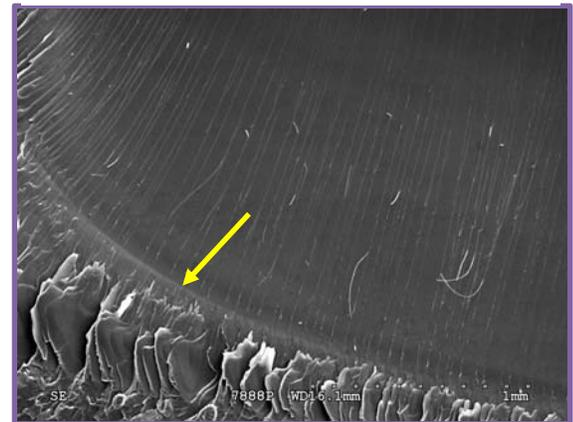

Figure 4 – Scanning electron micrograph showing a rib marking.
**Rib Markings:** Also known as arrest markings, rib markings can be evident as faint indications or striations on the fracture surface (Figure 4). They are commonly formed when the moving crack front arrests. They can also be produced by dramatic transformations in crack propagation speed or changes in the environmental conditions.